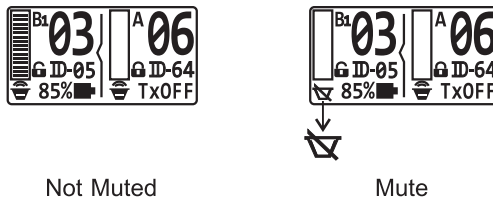

Fig. 30
- (A) Press knob once at Home Screen, turn and locate Version?. Press once to see current version.
- (B) Turn and locate Exit & Save status bar, press once returns to home screen.
- (C) Current version maybe changed.
11. Transmitter Mute Icon, see Fig. 30: